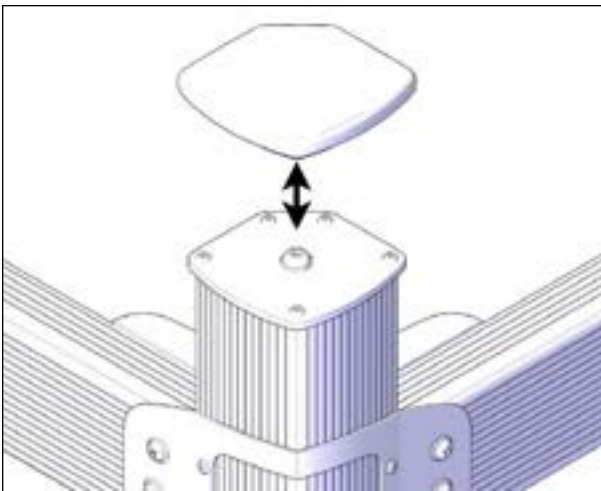

FIGURE 67: RUBBER CAP INSTALLATION
29. Install the rubber caps on all posts. These caps protect the post assembly tops from weathering see Figure 67.